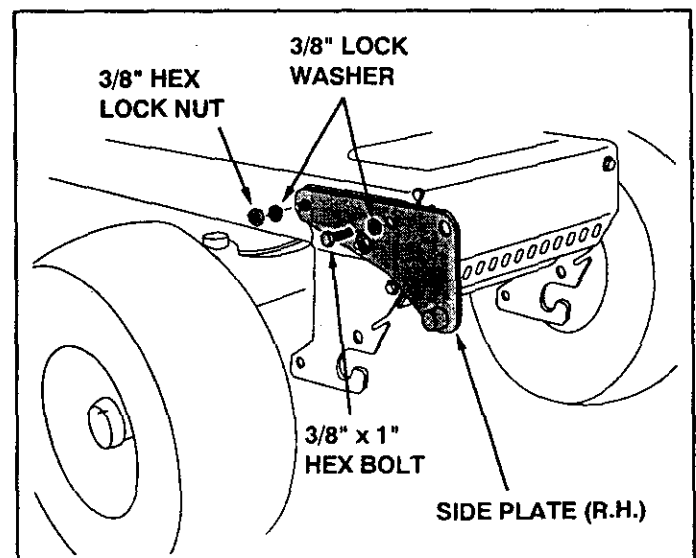

FIGURE 2
- Attach the rear of the R.H. side plate to the tractor using the original carriage bolt and a new 3/8" lock washer and 3/8" lock nut. Attach the front of the side plate to the threaded hole in the tractor frame using a 3/8" x 1" hex bolt and a 3/8" lock washer. Repeat for the L.H. side. See figure 2.